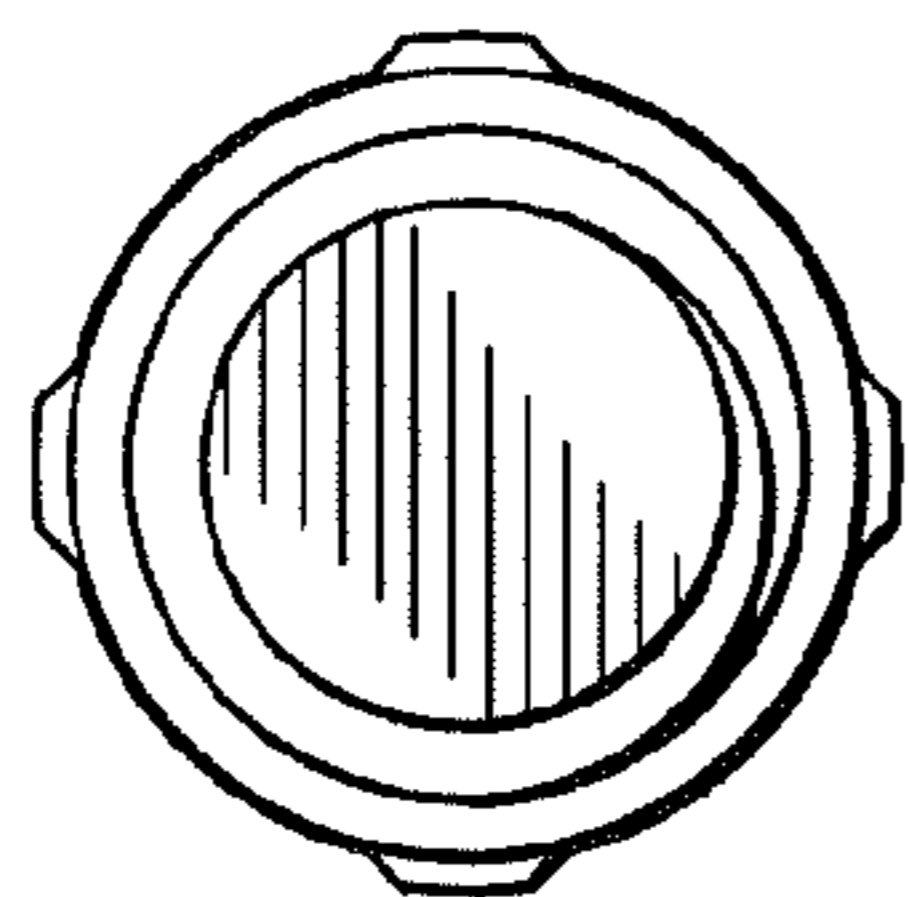

Fig. 11
- FIG. 11 is a top plan view of the stud having a cross knurled wedge;